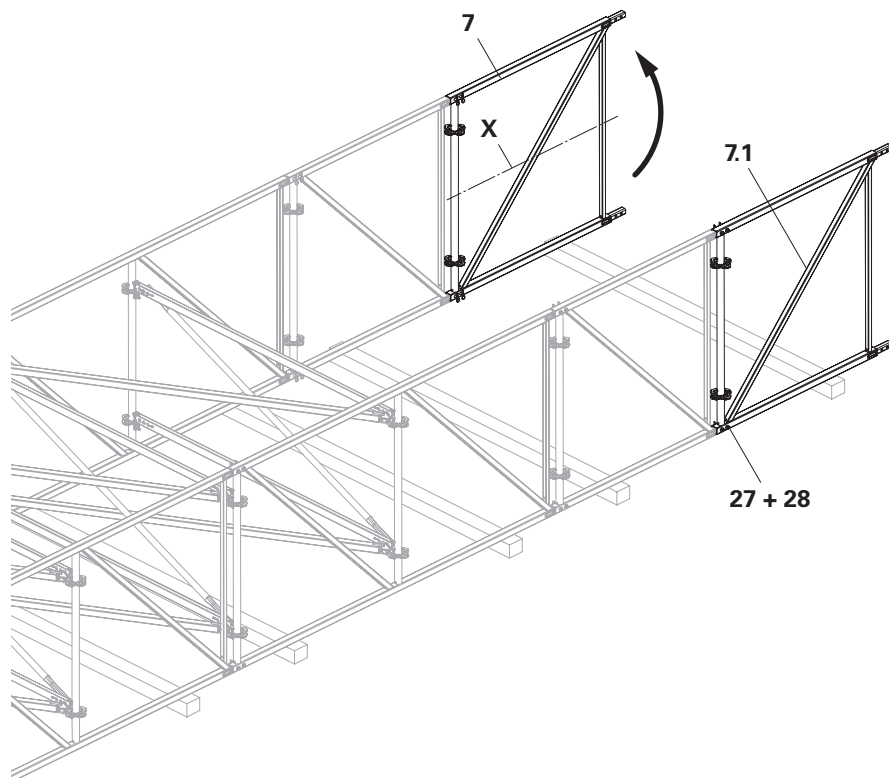

Fig. A1.08
1. Insert the tubes of the Intermediate Element URB (7) into the spigots of the Intermediate Element URB.
2. Insert 4x bolts Ø 16 x 70 (27) from the outside through the Intermediate Element URB (7) and Intermediate Element URB.
3. Secure bolt Ø 16 x 70 (27) with cotter pin 4/1 (28). (Fig. A1.08)